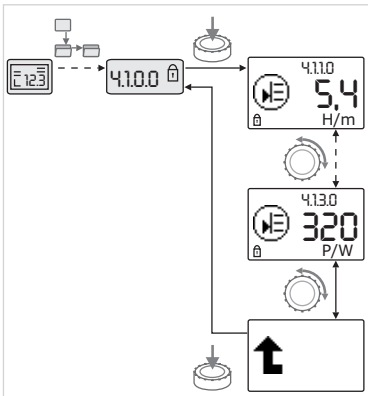

Fig. 33: Calling up information
- Turn the white button to access the "Information" menu elements in the current sub-menu (see Fig. 33). For an explanation of the settings represented by the symbols, see the table in Section 8.7 "Menu elements reference" on page 75.